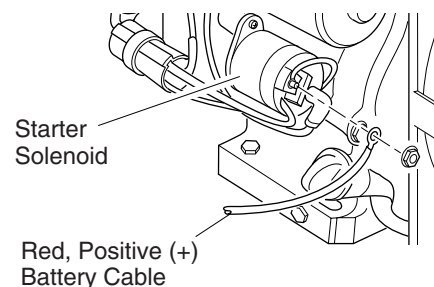

Figure 10 - Connecting Red, Positive (+) Battery Cable to Engine Starter Solenoid (Model MGH6500IE Shown)
1. Attach the red, positive (+) battery cable to the starter solenoid on engine (see Figure 10). The starter solenoid is located directly above the starter on Model MGH10000A. This cable is factory installed.